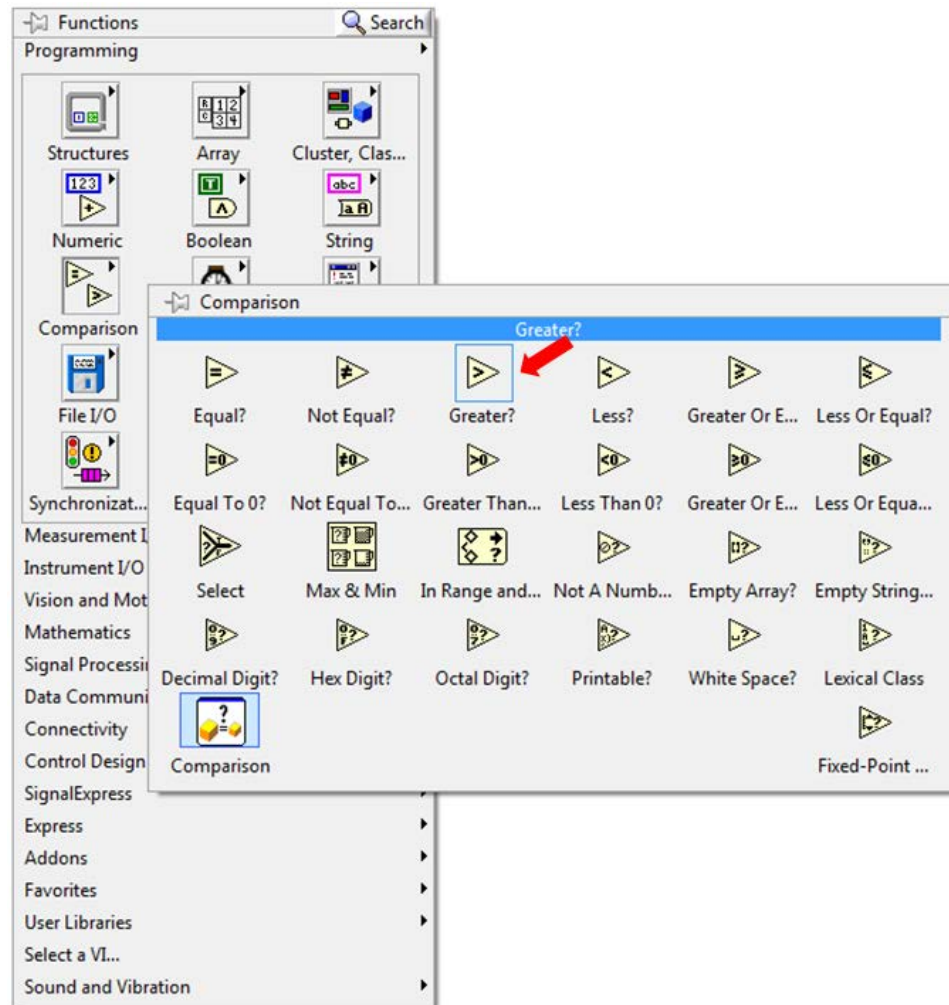
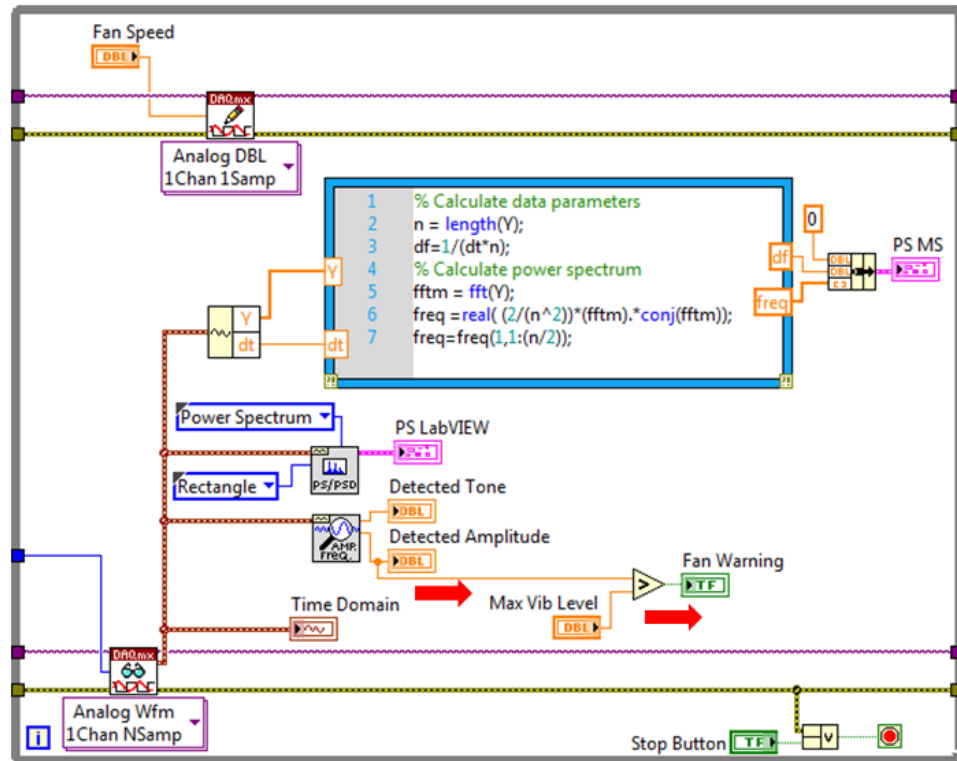

Figure 50. The **Greater?** function will compare two numbers and output a Boolean True if the top number is greater than the
Figure 51. The Greater? comparison compares the amplitude of the largest power tone with a user specified value.
7. Place a **Greater?** function from the Comparison Palette (Figure 50) in the location show in Figure 51.
8. Wire the **Greater?** function as seen in Figure 51.